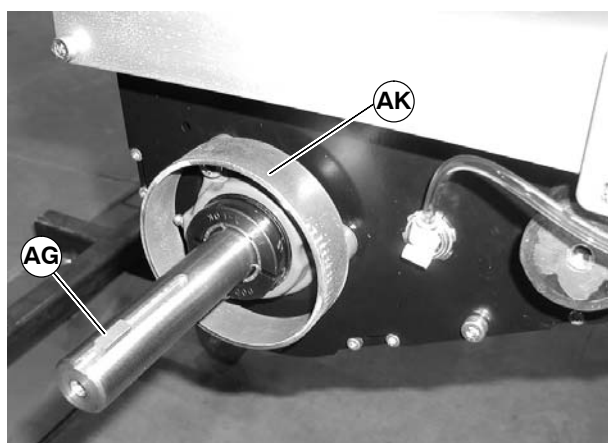

Figure 77
4. Remove spacer ring (AK of Figure 77) and key (AG).